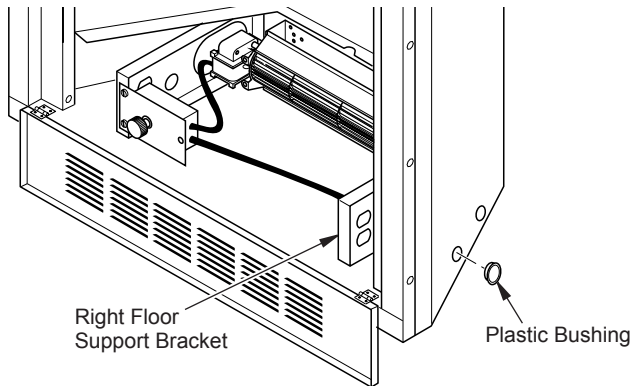

Figure 5 - Installing Plastic Bushing for Power Cord (Right Side Exit Shown)
a. **If your firebox is installed as a freestanding unit with an accessory mantel**, determine whether the power cord will exit the left side or the right side of the firebox. Install one plastic bushing provided into the 1.5" hole in the floor support on the exit side. Install the second bushing provided into the 1.5" hole in the outer casing through which the power cord will exit (see Figures 5 and 6). Route power cord through plastic bushings and plug the power cord into a properly grounded three-prong wall receptacle near the firebox.